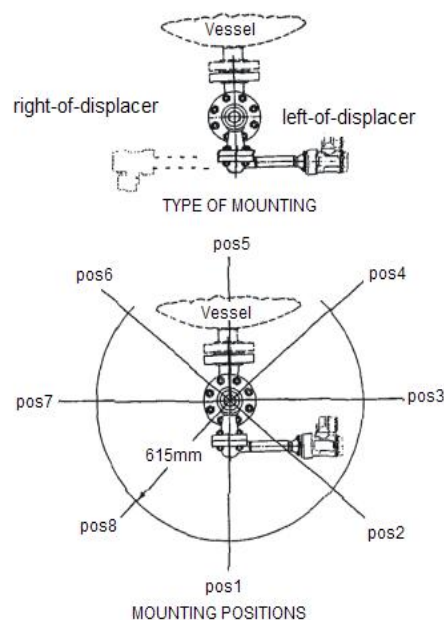

Figure 1: Typical Mounting Positions for VRDLC3020 Smart Level Transmitters
**Mounting positions:** right- or left-of-displacer, see figure 1.
**Mounting Positions:** Digital level controllers can be mounted right – or left-of-displacer, shown in figure 1.